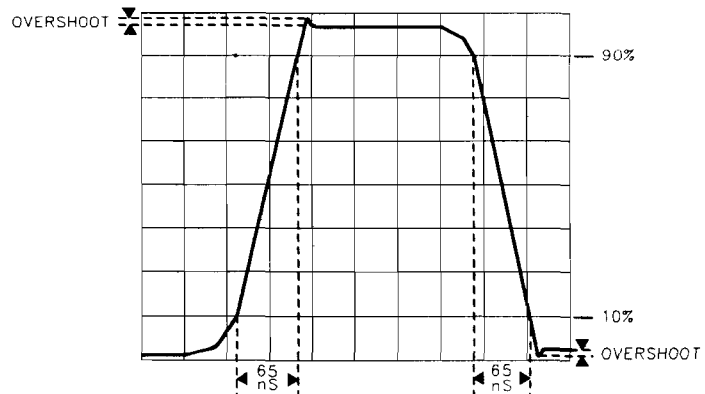

Figure 3-28.
18. Use the oscilloscope ($\Delta t \Delta V$) markers to measure the risetime, falltime, and percent overshoot of the composite Xdeflection waveform. Rise and fall times should both be less than approximately 65 ns between the 10% and 90% points on the waveform. Overshoot should be less than 3% (approximately 0.25 divisions). See Figure 3-28.